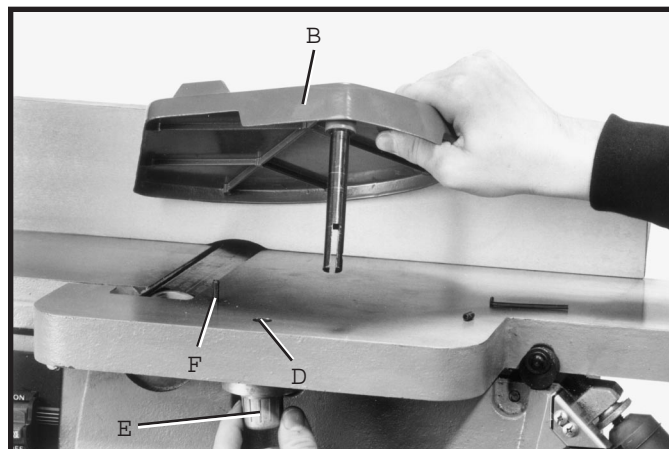

Fig. 18
2. Insert the post of cutterhead guard (B) Fig. 18, down through hole (D) in the infeed table. NOTE: A spring is supplied inside knob assembly (E) Fig. 18, that returns guard (B) over the cutterhead after the cut has been made. Turn knob (E) Fig. 18, to provide tension on the spring before inserting the post. Make certain the spring inside knob (E) engages slot in cutterhead post and that the guard (B) is positioned over pin (F). If spring tension is too much or too little, adjust the tension spring accordingly by removing the guard and rotating knob (E).